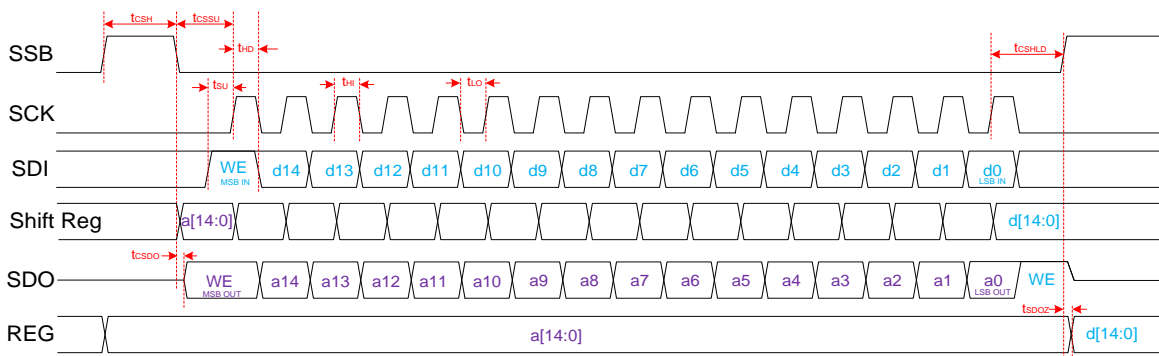
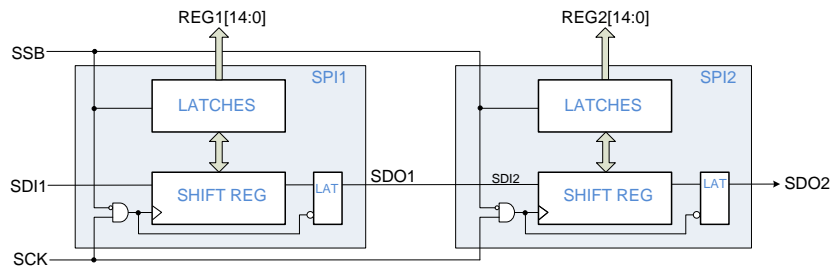
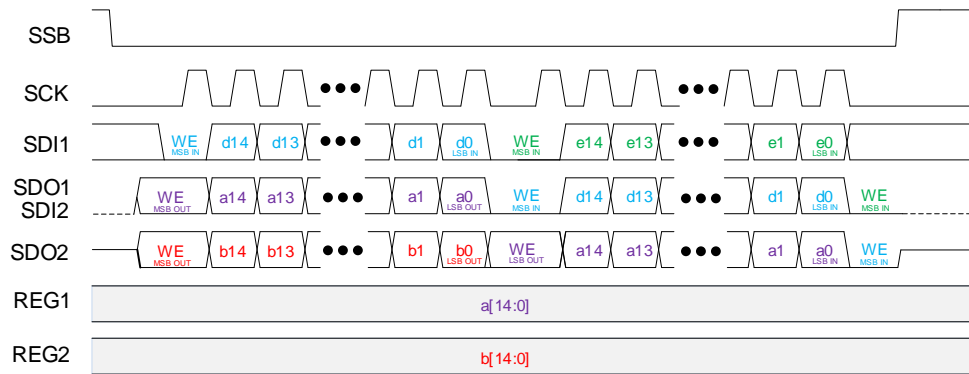
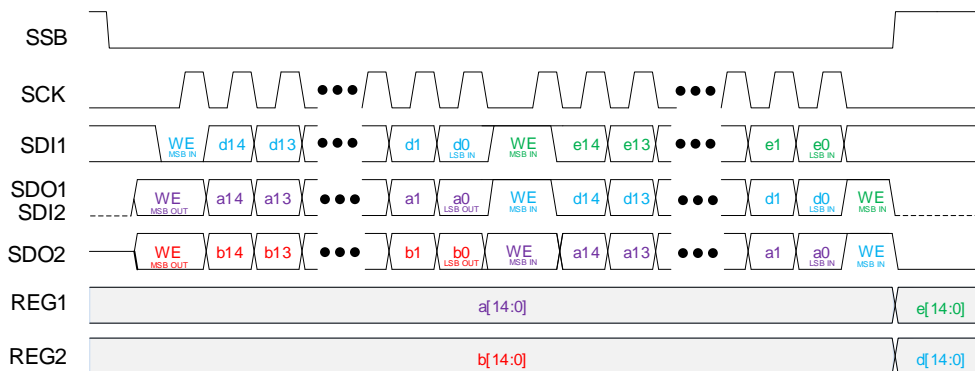

Figure 16. Timing Diagram
Figure 19. SPI with 2 ICs Daisy-chained
Figure 20. SPI Read Only (2 ICs Daisy-chained)
Figure 21. SPI Read & Write (2 ICs Daisy-chained)
MODE = 0, activates the 16-Bit Serial Peripheral Interface (SPI) module for operation. Multiple devices can be daisy-chained to drive multiple ICs using one SPI bus. (See Daisy Chain Operation, Figure 19 through Figure 21). The SPI works at any frequency up to a maximum of 33 MHz and may operate at significantly lower frequencies if the logic signals adhere to the data setup and hold requirements.
SPI timing diagrams are provided in Figure 16 through Figure 21. In SPI mode, data transmission starts when SSB goes Low, causing the Target to output the Most Significant Bit (MSB) of data to the SDO (MISO) pin. Data transfer from Host to Target takes place during the rising edge of the clock (SCK), which is idle when SSB is High. This mode of operation requires data for Host and Target to be present on SDI (MOSI) before the rising edge of the clock (defining SDI to SCK setup time). Data is pushed out of the SDO (MISO) pin during the falling edge of the clock. After the first 16-bit transaction, the Host writes the latest data (DN) to the Target, while the Target passes its previous (DN-1) stored data to the Host. Data is latched into the internal registers at the rising edge of SSB, if $WR_EN = 1$.
Daisy chaining the ICs is permitted and involves connecting the SDO (MISO) of one chip to the SDIN (MOSI) of the next chip in the chain, as shown in Figure 19. SPI timing diagrams with daisy-chained devices are provided in Figure 20 and Figure 21.